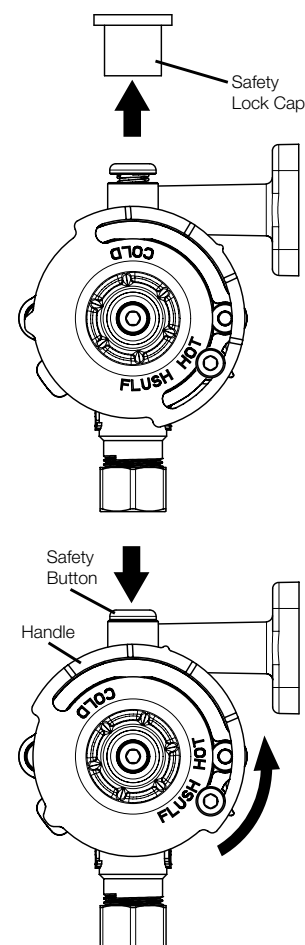

Figure 6. Pipe Flush Mode, Models 131-FMAB(RCF), 131-CFMAB(RCF)
3. Remove the Safety Lock Cap and depress the Safety Button to disengage the safety lock as shown in Figure 6.
4. Turn the Handle counter-clockwise to FLUSH position (Figure 6). Valve is now in Pipe Flush Mode.